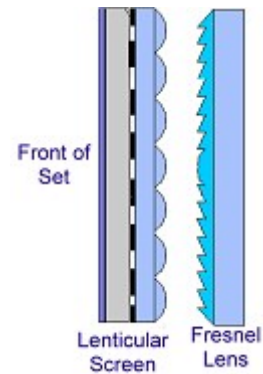

Figure 12
Step 5 – The parts kit comes assembled. Carefully install so that the Lenticular (Dark side) screen side is facing the front of the set. See figure 12. Reassemble the unit by reversing the procedure above.